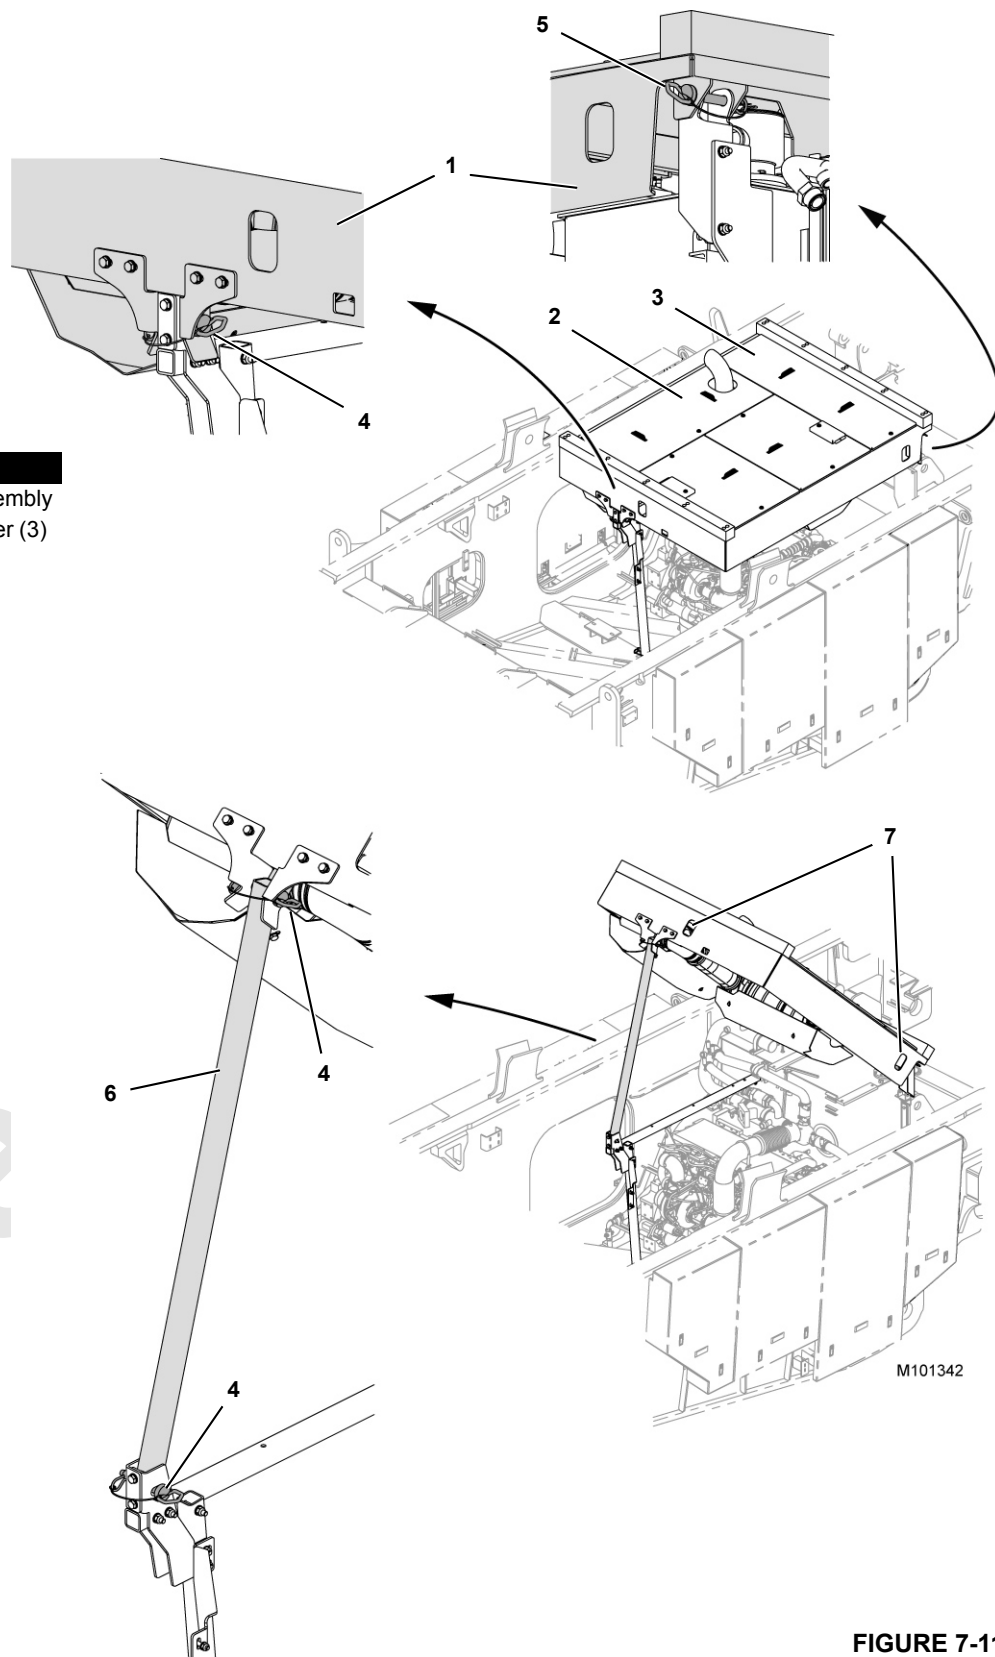

FIGURE 7-11
See Figure 7-11 for the following procedure. Covers can be unlatched with a screwdriver and removed to allow access to the exhaust system and hydraulic tank for service.
8. Using the two hitch pins, install the frame support rod as shown in Figure 7-11.